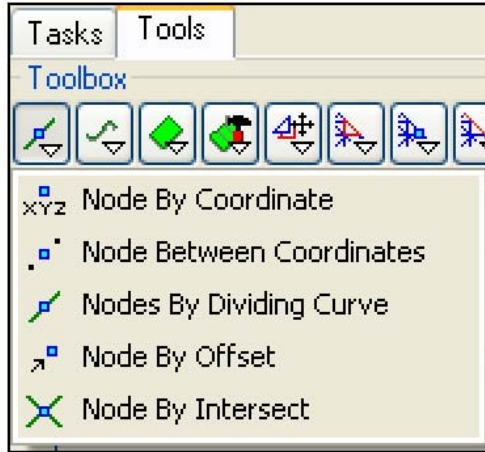

Figure 217: Toolbox - Create node
Create nodes icon  from the toolbox menu, shown in Figure 217.
2. Select the option from the pull down menu, shown in Figure 217 that corresponds to the node creation method you plan to use.